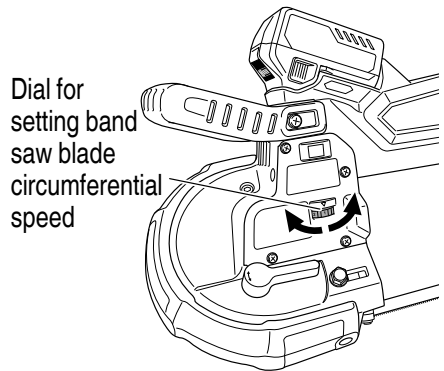

Fig. 13
6. Adjusting operating speed (Fig. 13)